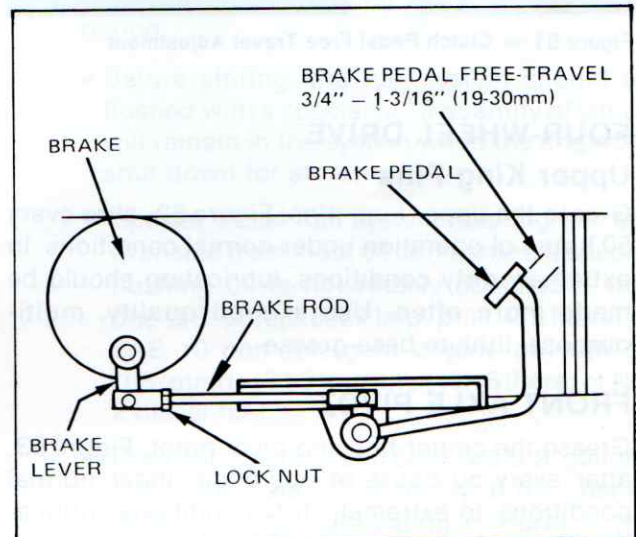

Figure 60 — Brake Pedal Adjustment
2. Loosen the locknut, Figure 60, and rotate the brake rod as necessary until there is $3/4$ - $1\frac{3}{16}$ in. (19-30 mm) of pedal free play. Lengthening the rod increases free play while shortening the rod decreases free play.